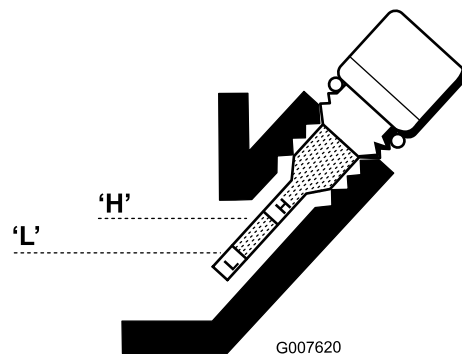

Figure 20
5. If the level is low, add only enough oil to raise the level until it is between the H and L marks on the gauge (Figure 20). **Do not overfill.**